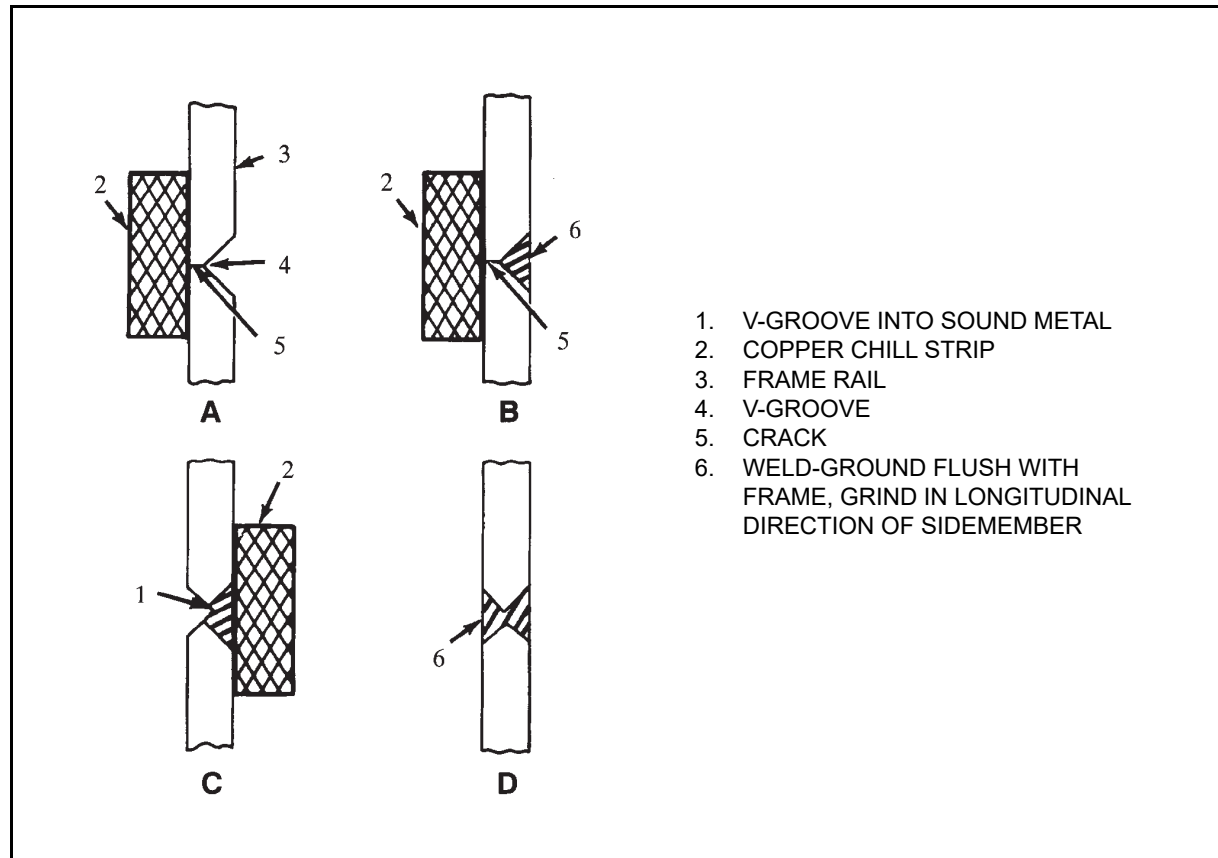

Figure 2.4 Use of Chill Strip
5. Grind smooth and flush with surrounding sidemember material. Grind the weld in a direction that is 90° to crack direction (Figure 2.4 D).
The SMAW and the GMAW methods are preferred for welding the HSLA frames. The use of low hydrogen electrodes is recommended. Refer to Table 2.1 for selection of recommended electrodes and wires, or refer to A.W.S. A.5 standard available from www.aws.org for equivalent strength electrodes, wires or rods and power leads to be used in the welding methods. The double V-notch weld preparation using the weld procedure shown in Figure 2.4 is the preferred welding method.
10. Grind smooth and flush with surrounding sidemember material. Grind the weld in a direction that is at 90° to crack direction (Figure 2.4 D).
A heavy copper “chill” strip should be clamped to the rail side away from the groove to help control the temperature and cooling rate during welding (Figure 2.4). Short lengths of discarded heavy copper electrical bus bars make suitable chill strips.
Slag should be removed after each pass and an interpass temperature of 200° F (93° C) should be maintained. Grind smooth and flush with surrounding sidemember material, in a direction that is parallel to the longitudinal axis of the sidemember (Figure 2.4 D).
A V-groove is ground from the side opposite the repair and the procedure outlined above repeated. “Chill” strips should be used whenever possible. The V-groove ground on the opposite side of the repair should be deep enough to enter the sound metal of the first weld repair as shown in Figure 2.4 C.